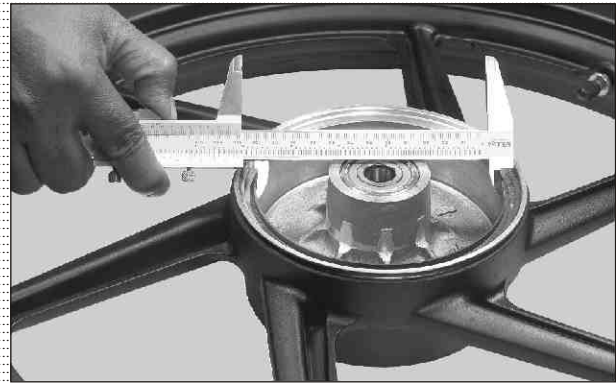

Fig. 2.89
- Measure inner diameter of the brake drum (rear wheel) at 3 to 4 places. If diameter exceeds the service limit, then replace the alloy wheel rear with a new one. (Fig. 2.89)